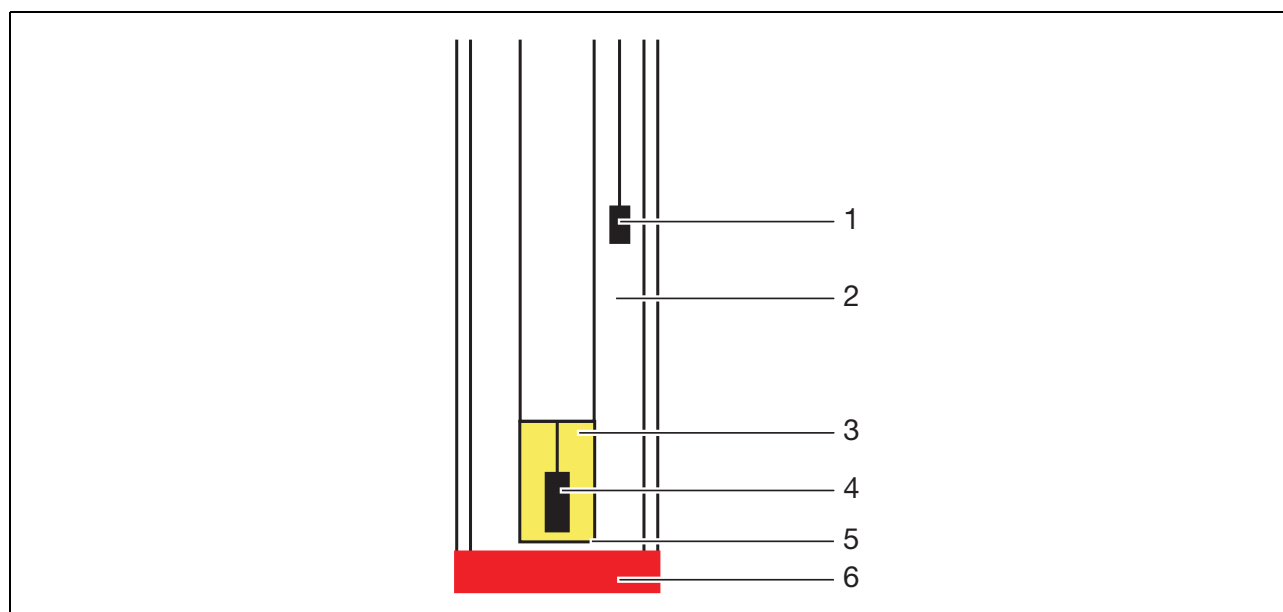

Fig. 2: Basic construction of the ammonia sensor
The basic construction of the ammonia sensor is shown in Figure 2, Page 8: The ammonia sensor consists of a glass pH electrode and a reference electrode which are surrounded by a common electrolyte that is separated from the liquid being measured by a hydrophobic, gas-permeable membrane.
The glass membrane (Figure 2, Page 8, (5)) has a flat or slightly convex shape, so that the electrolyte layer that is formed between the membrane glass and the hydrophobic membrane is as thin as possible, to ensure a fast response time and high sensitivity. The local change in pH in the thin film of electrolyte as a result in the ammonia penetration is detected by the pH electrode.